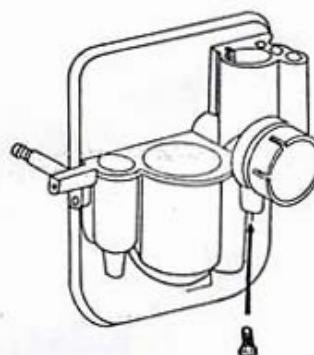

Fig. 5
- Unscrew the plug screw (Philips head screwdriver) and if necessary, clean with an air stream (fig. 5). (This screw gives you access to the idle circuit.)